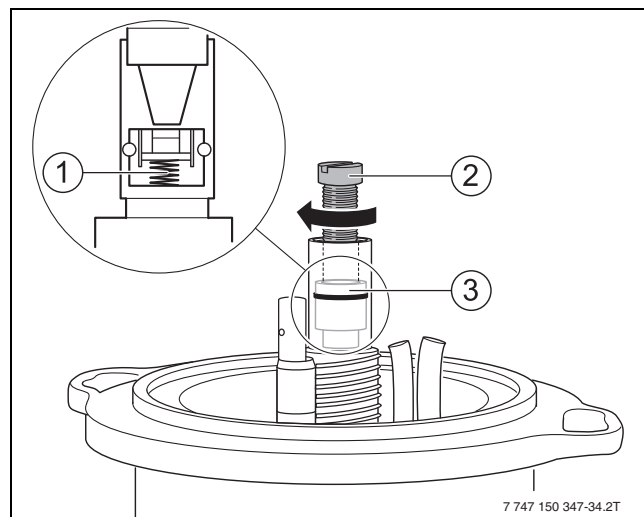

Fig. 66 Remplacer le clapet de retenue
- ▶ Visser la vis M5 x 50 (→ fig. 66, [2]).
- ▶ Retirer le clapet de retenue (→ fig. 66, [3]).